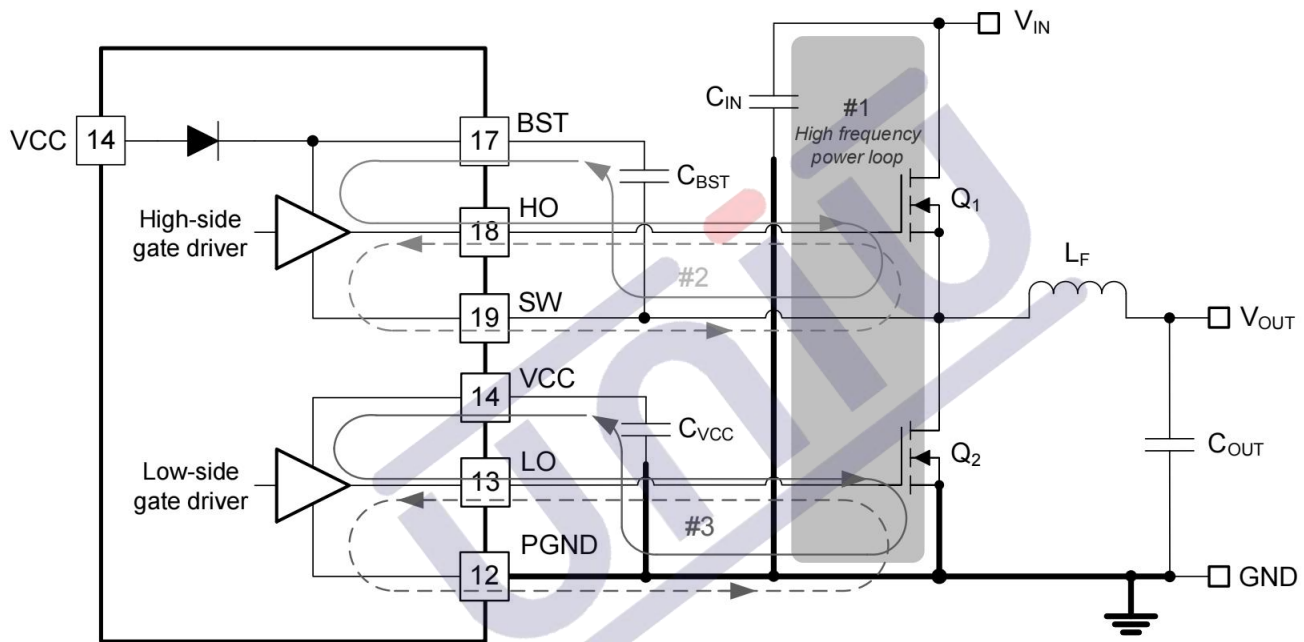

Figure 70. DC/DC Regulator Ground System With Power Stage and Gate Drive Circuit Switching Loops
Proper PCB design and layout is important in a high-current, fast-switching circuits (with high current and voltage slew rates) to assure appropriate device operation and design robustness. As expected, certain issues must be considered before designing a PCB layout using the U3401/2. The high-frequency power loop of the buck converter power stage is denoted by #1 in the shaded area of Figure 70. The topological architecture of a buck converter means that particularly high  $di/dt$  current flows in the components of loop 1, and it becomes mandatory to reduce the parasitic inductance of this loop by minimizing its effective loop area. Also important are the gate drive loops of the low-side and high-side MOSFETs, denoted by 2 and 3, respectively, in Figure 70.
- 1) Loop #1: The most important loop to minimize the area of is the path from the input capacitor(s) through the high- and low-side MOSFETs, and back to the capacitor(s) through the ground connection. Connect the input capacitor(s) negative terminal close to the source of the low-side MOSFET (at ground). Similarly, connect the input capacitor(s) positive terminal close to the drain of the high-side MOSFET (at VIN). Refer to loop #1 of Figure 70.
5. The SW pin connects to the switch node of the power conversion stage and acts as the return path for the high-side gate driver. The parasitic inductance inherent to loop #1 in Figure 70 and the output capacitance ( $C_{OSS}$ ) of both power MOSFETs form a resonant circuit that induces high frequency (>100 MHz) ringing on the SW node. The voltage peak of this ringing, if not controlled, can be significantly higher than the input voltage. Ensure that the peak ringing amplitude does not exceed the absolute maximum rating limit for the SW pin. In many cases, a series resistor and capacitor snubber network connected from the SW node to GND damps the ringing and decreases the peak amplitude. Provide provisions for snubber network components in the PCB layout. If testing reveals that the ringing amplitude at the SW pin is excessive, then include snubber components as needed.
Loop2:high-side MOSFET,  $Q_1$  . During the high-side MOSFET turn-on, high current flows from the bootstrap (boot) capacitor through the gate driver and high-side MOSFET, and back to the negative terminal of the boot capacitor through the SW connection. Conversely, to turn off the high-side MOSFET, high current flows from the gate of the high-side MOSFET through the gate driver and SW, and back to the source of the high-side MOSFET through the SW trace. Refer to loop #2 of Figure 70.
Loop3:low-side MOSFET,  $Q_2$  . During the low-side MOSFET turn-on, high current flows from the VCC decoupling capacitor through the gate driver and low-side MOSFET, and back to the negative terminal of the capacitor through ground. Conversely, to turn off the low-side MOSFET, high current flows from the gate of the low-side MOSFET through the gate driver and GND, and back to the source of the low-side MOSFET through ground. Refer to loop #3 of Figure 70.